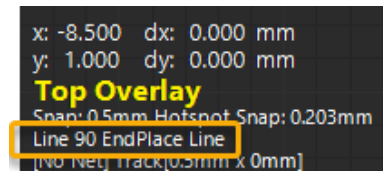

Figure 39. HUD displaying current line mode of 90 degrees
62. Press **Shift + Spacebar** to change the shape of the corner and **Spacebar** to change the orientation until the HUD displays **Line 90 EndPlace Line** as shown in Figure 39.